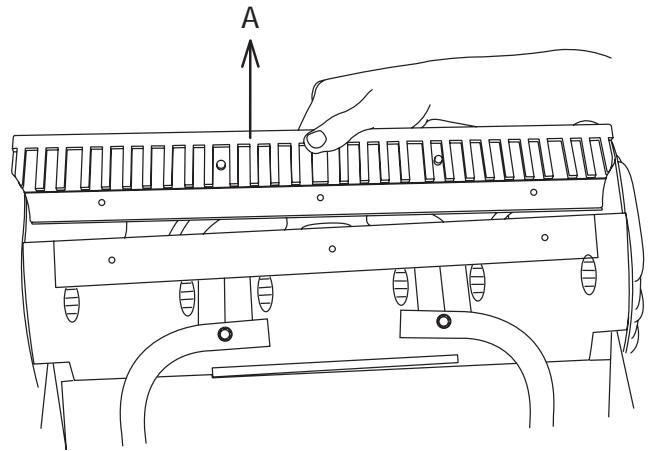

Figure 29
1. Detach the worn scraper from the snow thrower by removing the 3 screws that hold it in place (Fig. 29).